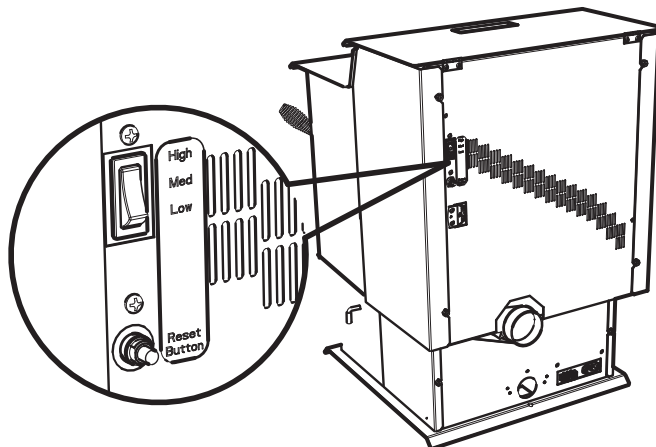

Figure 8.1
This appliance is equipped with a heat output control switch that has three settings or burn rates; low, medium and high. **Figure 8.1.**
3. Locate the heat output control switch mounted on the back of the appliance in the upper left corner. **Figure 8.1 on page 8.**